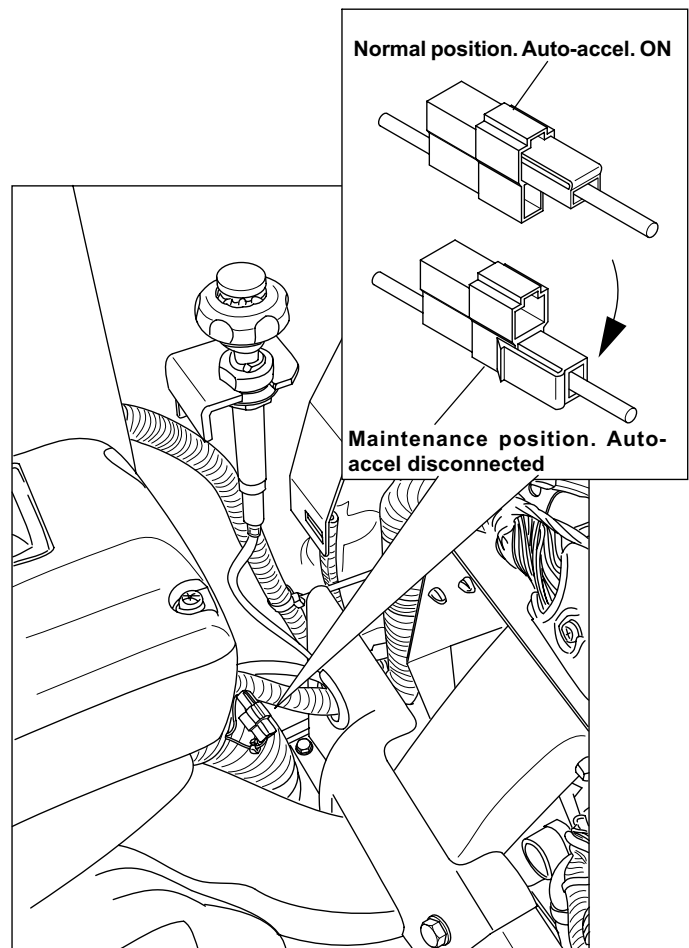

FIGURE 4.43A
1. Locate the one pin connector for the auto-acceleration function behind the operator's right hand console and change the position of the connector as indicated in Figure 4.43A.
5. Make sure to change the position of the auto accel connector to activate the auto accel function for normal machine operation. See Figure 4.43A (previous page) for better reference.